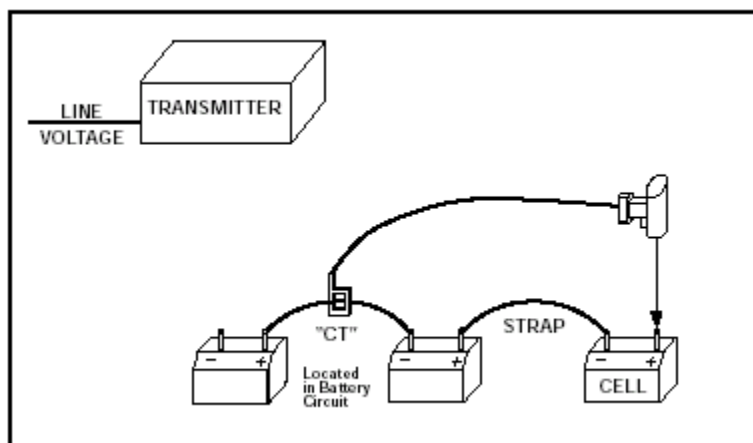

Figure 1
7. The display tells you to connect the "CT", then measure the RIPPLE CURRENT flowing in the battery circuit. To store the ripple current measurement, pull the trigger. Refer to Figure 1.